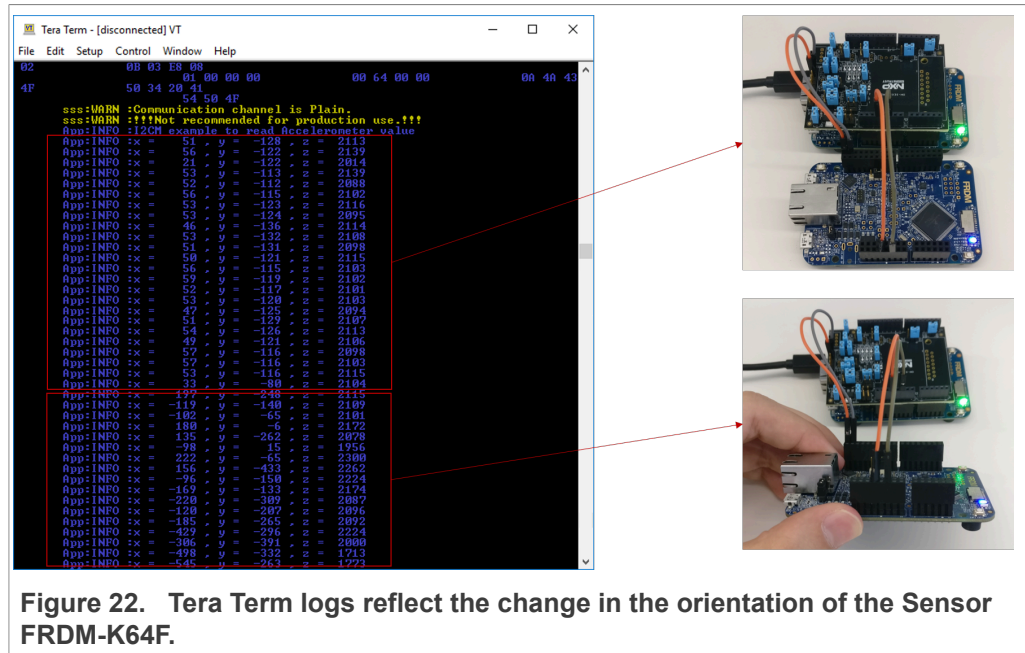

Figure 22. Tera Term logs reflect the change in the orientation of the Sensor FRDM-K64F.
- The accelerometer data is now displayed in the TeraTerm window. Move the FRDM-K64F board acting as a sensor in different directions to observe how the accelerometer coordinates change in the TeraTerm window, as shown in Figure 22